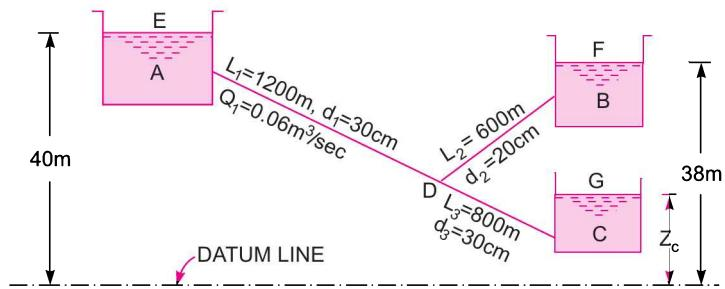

Fig. 11.27
**Problem 11.42** Three reservoirs *A*, *B* and *C* are connected by a pipe system shown in Fig. 11.27. Find the discharge into or from the reservoirs *B* and *C* if the rate of flow from reservoirs *A* is 60 litres/s. Find the height of water level in the reservoir *C*. Take  $f = .006$  for all pipes.